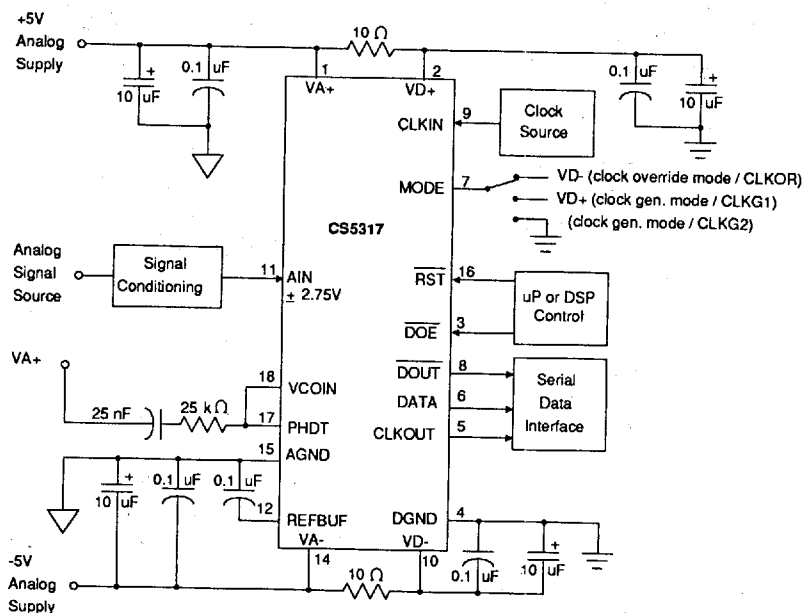

Figure 1. System Connection Diagram with Example PLL Components
*manently damaged.* If the two supplies are derived from separate sources, care must be taken that the analog supply comes up first at power-up. Figure 1 shows a decoupling scheme which allows the CS5317 to be powered from a single set of  $\pm 5\text{V}$  rails. The digital supplies are derived from the analog supplies through 10  $\Omega$  resistors to prevent the analog supply from dropping below the digital supply.